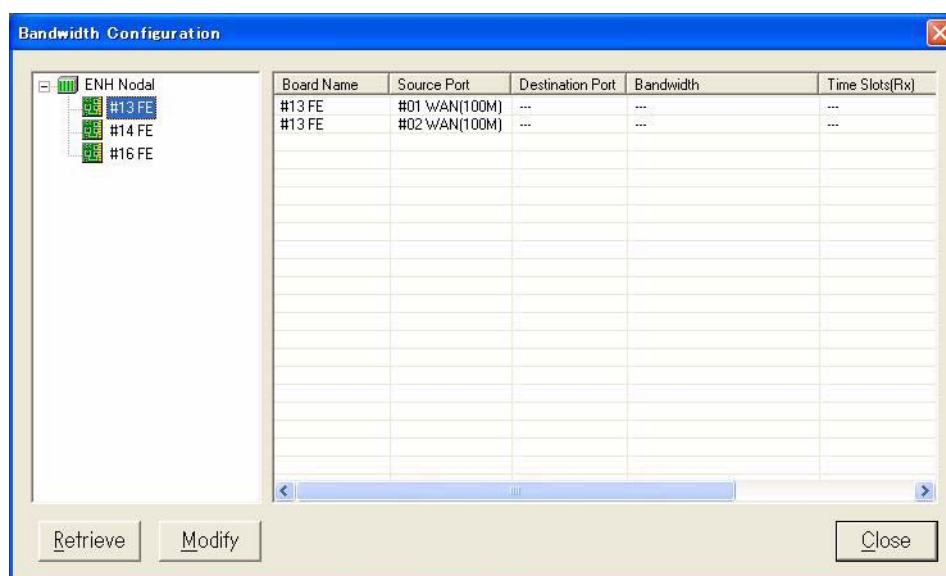

Fig. 4-4-78 Bandwidth Configuration Dialog Box
- 3 Select **Bandwidth Configuration** from the **LAN-Interface** menu to open the **Bandwidth Configuration** dialog box. The **Bandwidth Configuration** dialog box shown in *Fig. 4-4-78* appears: